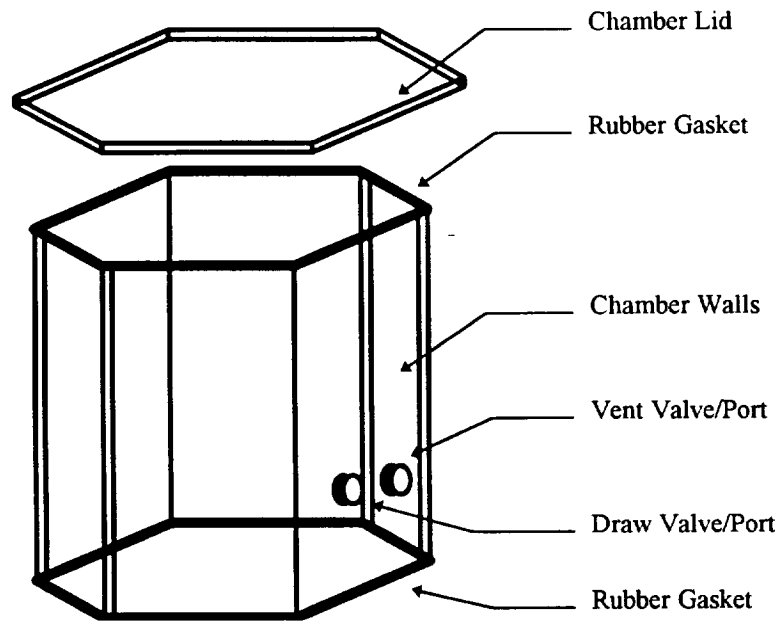

Figure 2. Schematic of Vacuum Chamber
2.5 cm (1.0 inch) thick acrylic as shown in Figure 2. An industrial shop vacuum is used to reduce chamber pressure by approximately 21 kPa (3 psi).